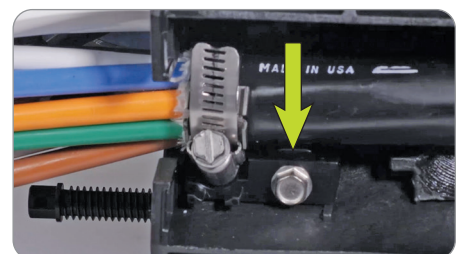

Figure 20
- Fully tighten CAU retention bolt. (Figure 20)